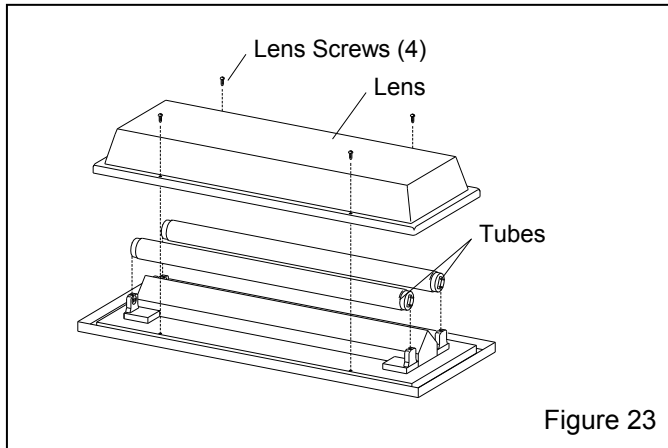

Figure 23
7.7.3.2 Flip the fixture over to access the lens screws, ref. Figure 23.